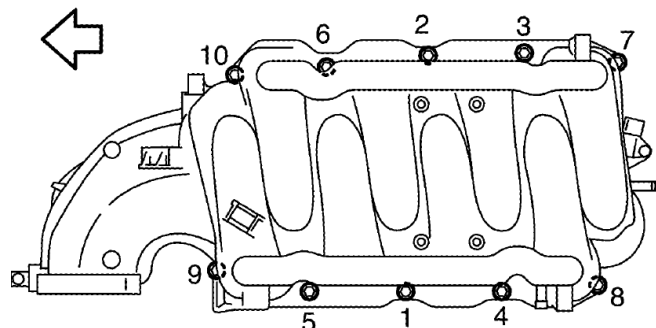

Figure 19
- Start intake manifold bolts by hand and then tighten in the order shown in Figure 19: